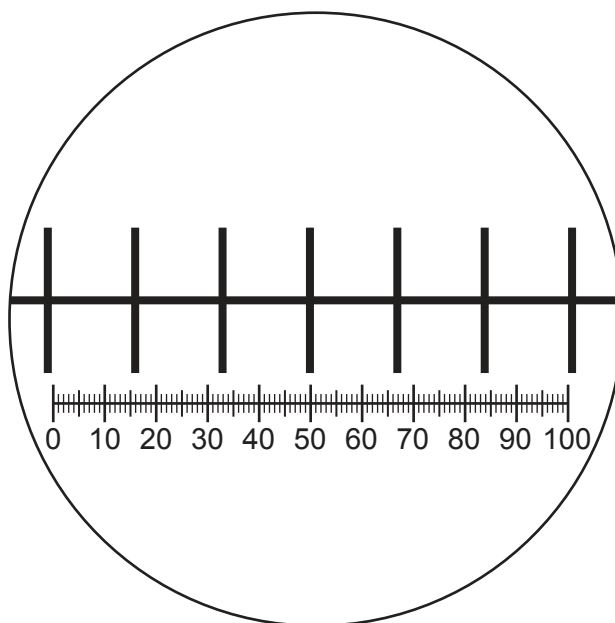
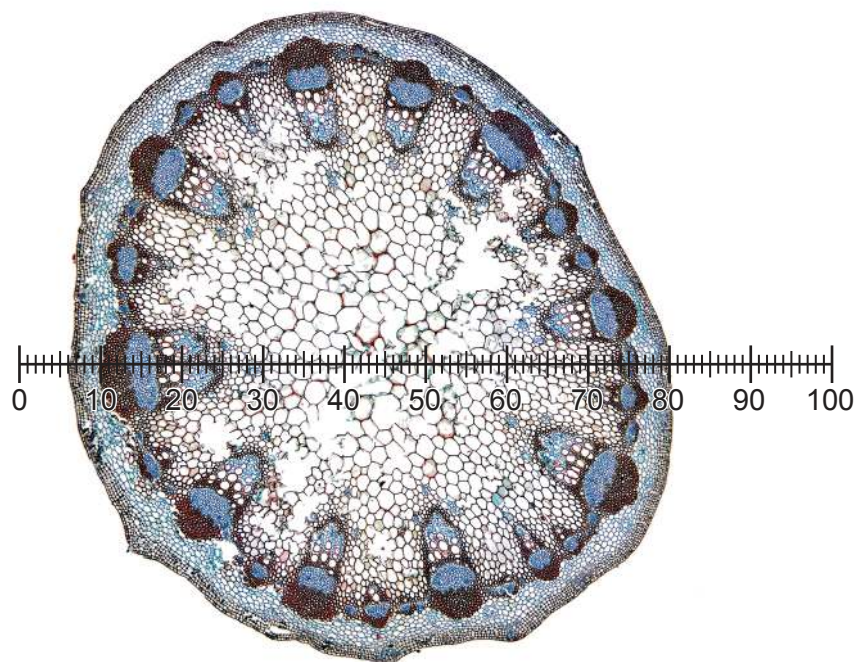

Fig. 2.2
Fig. 2.3
- (b) Fig. 2.2 shows a diagram of a stage micrometer scale that is being used to calibrate an eyepiece graticule.
- (i) Use Fig. 2.2 to calculate the actual length of one eyepiece graticule unit.
Fig. 2.3 shows a photomicrograph of a transverse section through a different stem to **K1**. This was taken with the same microscope and lenses used to take Fig. 2.2. The eyepiece graticule has been placed across the diameter of the section.
- (ii) Use the calibration of the eyepiece graticule from **(b)(i)** to calculate the actual diameter of the section in Fig. 2.3.
(iii) Identify **three** observable differences, other than size and colour, between the stem section on **K1** and the stem section on Fig. 2.3.